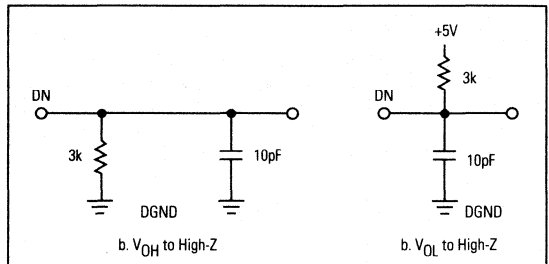

Figure 2. Load Circuits for Bus-Relinquish Time
**Note 15:**  $t_7$  is defined as the time required for the data lines to change 0.5V when loaded with the circuits of Figure 2.